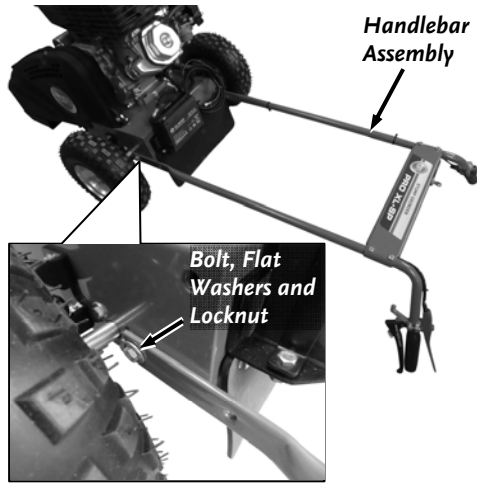

Figure 5
2. Position the Handlebar on the floor behind the machine and align the holes at the end of the Handlebar with the center holes (of the 3 holes) in the Frame (**Figure 5**).